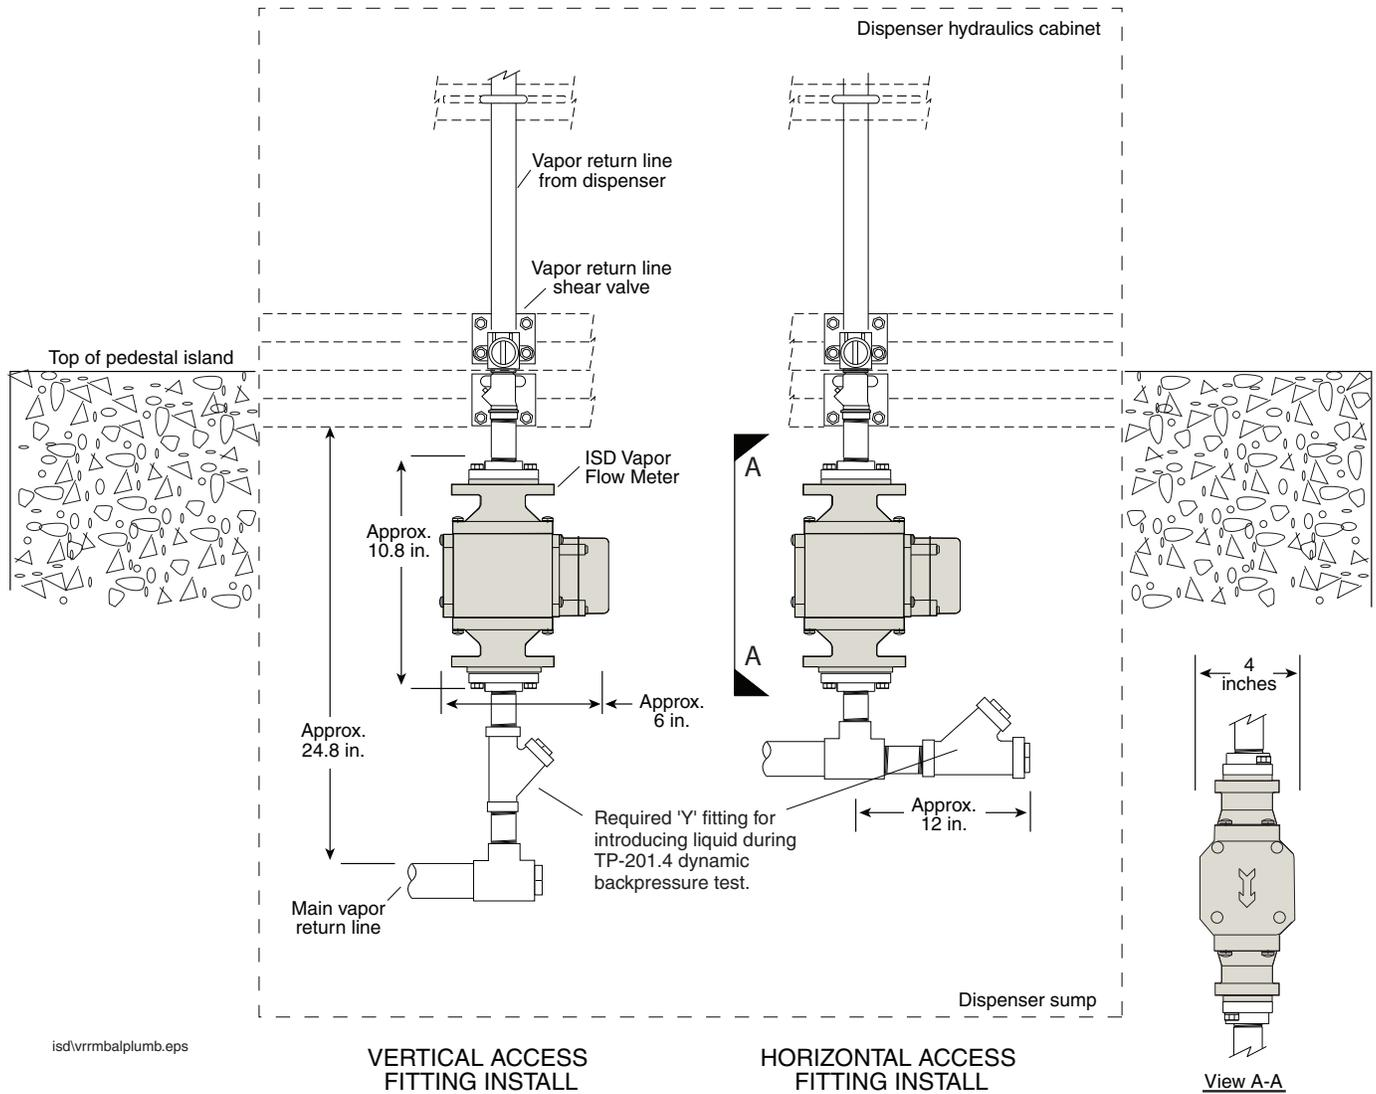

Figure 3. Example flow meter installations with approximate clearances
3. Remove any unneeded field installed plumbing between the vapor shear valve and the vapor return line fitting. Figure 3 shows two example installations of the Vapor Flow Meter with the required lateral or wye fitting for running the TP-201.4 back-pressure test. Approximately 3 inches of clearance is required on both sides of the piping to accommodate the width of the meter body.